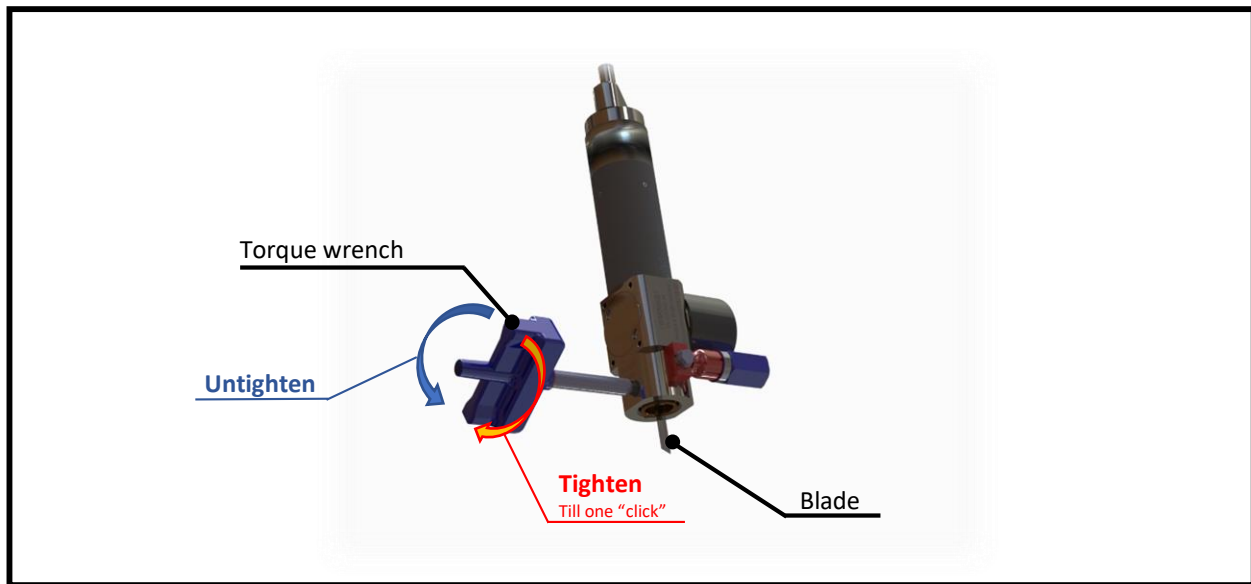

Figure 7: How to assemble / change a blade (exemplary presentation).
2. Untighten the screw with the included torque wrench and the 3 mm Allen bit (**Figure 7**)
5. Tighten the screw with the torque wrench and the 3 mm Allen bit. (Figure 7). Never touch the edge of the blade with your fingers. **Attention: Risk of injury!**